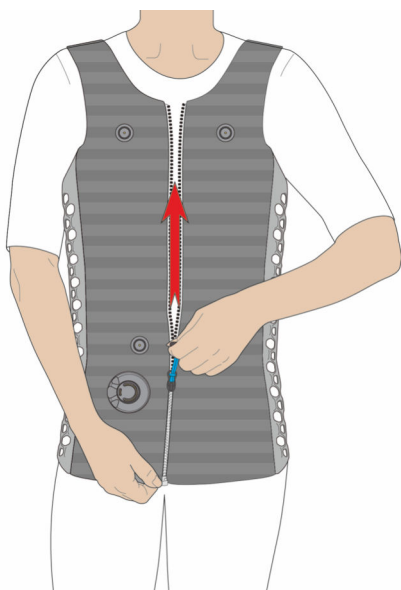

Fig. 36: Closing the i-body®
4. ➔ Close the i-body® with the zipper (Fig. 36).